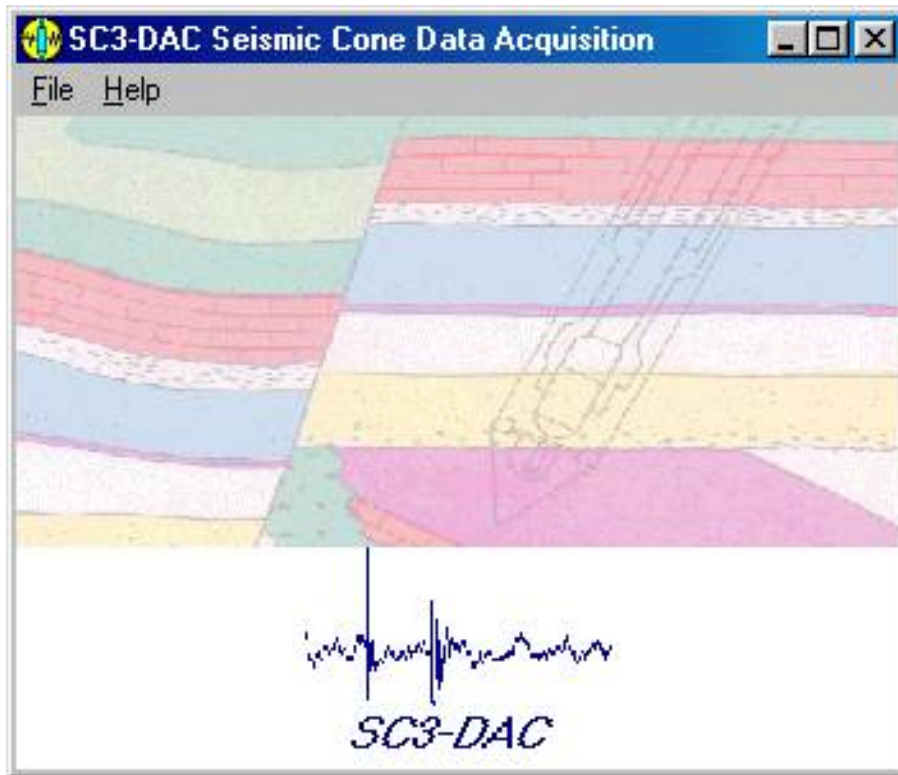

Figure 1. Main menu in *SC3-DAC*.
SC3-DAC is a Windows® program which facilitates the data acquisition of triaxial seismic cone (SC) time series data. The main menu of *SC3-DAC* is illustrated in Figure 1. The main menu in Figure 1 displays the two options of File and Help.